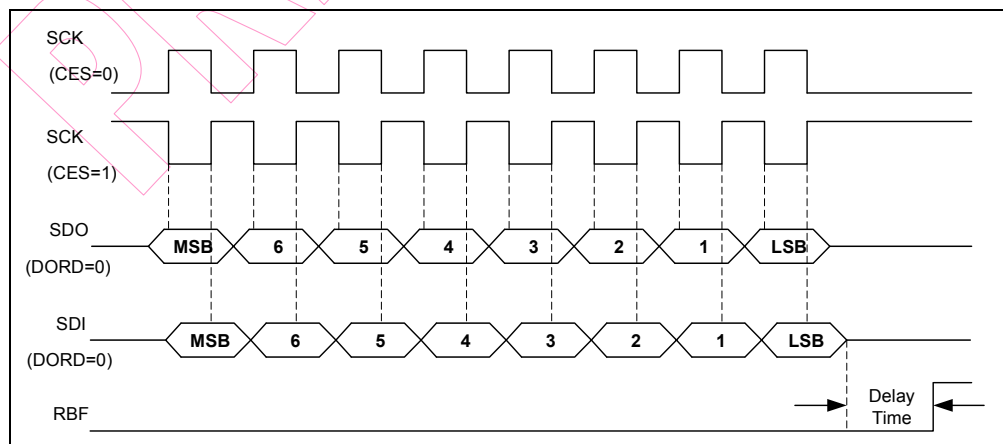
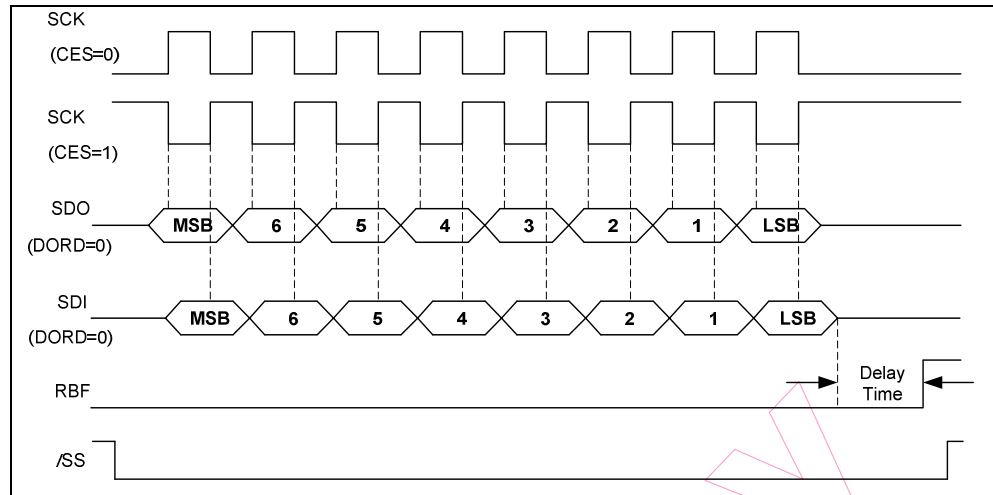

Figure 6-23 SPI Mode with /SS Disabled
Figure 6-24 SPI Mode with /SS Enabled
- Timing is shown in Figures 6-23 and 6-24.
The SCK edge is selected by programming bit CES. The waveform shown in Figure 6-23 is applicable regardless of whether the EM88F715N is in Master or Slave mode, with /SS disabled. However, the waveform in Figure 6-24 can only be implemented in Slave mode with /SS enabled.